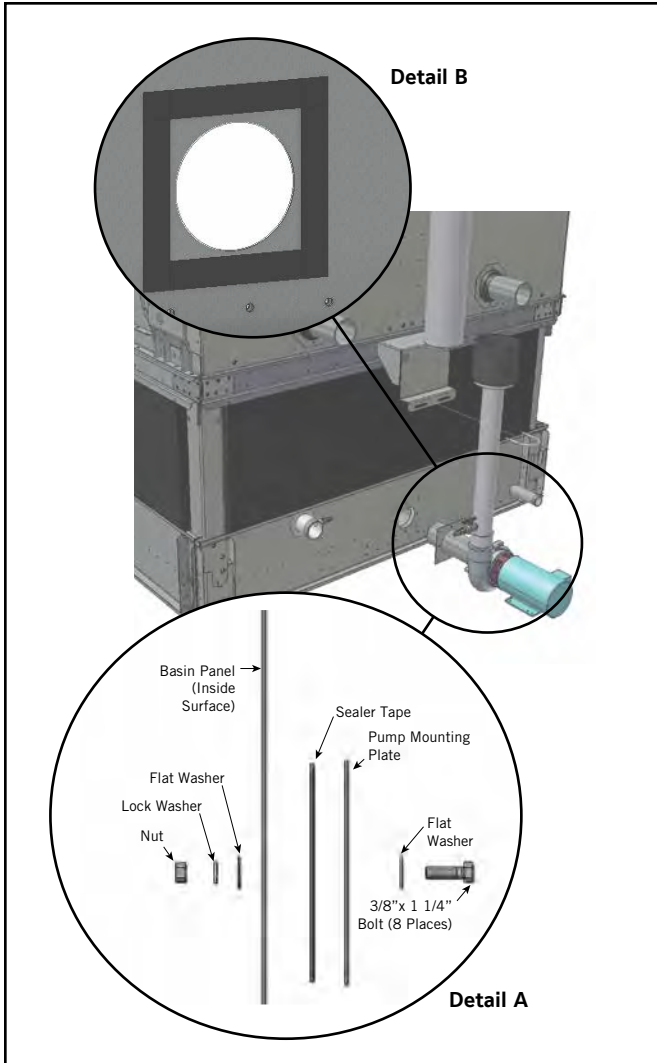

Figure 10 – Bolt/Piping Assembly
9. Secure the pump/piping assembly to the basin using the flat butyl sealer tape (Part#: BAC554000) and bolts provided as shown in Figure 10. Apply the sealer tape as shown in Figure 10, Detail B.